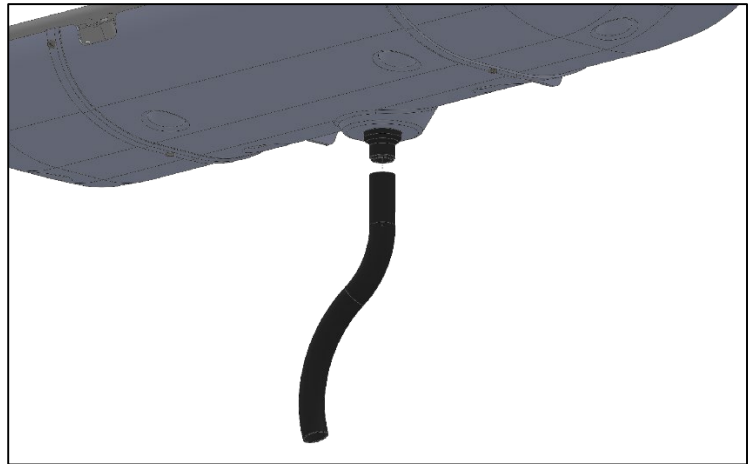

Fig. 9
- To attach the hose, press it onto the connector on the bottom of the drip tray and secure in place using the threaded attachment on the end of the hose (Fig.9).